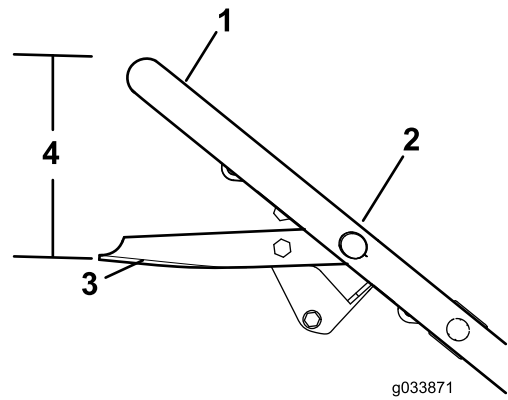

Figure 30
- Hold the blade-control bar at 19 cm (7-5/8 inches) from the top of the handle as shown in Figure 30.